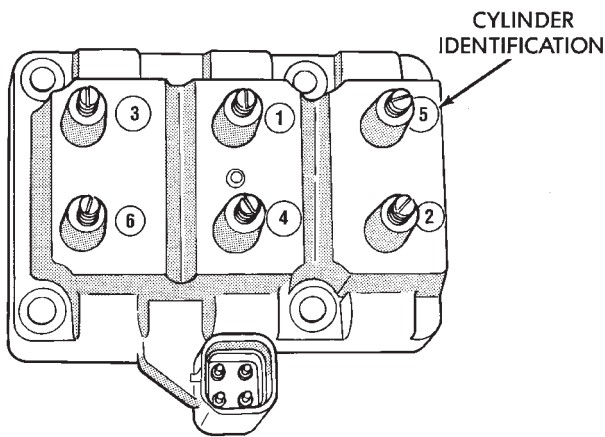

Fig. 14 Cylinder Identification
- (1) Disconnect electrical connector from coil pack.
- (2) Remove coil pack mounting screws.
- (3) Remove coil. The spark plug cables are numbered for cylinder identification.
- (4) Transfer spark plug cables to new coil pack. The coil pack towers are numbered with the cylinder identification (Fig. 14).
- (5) Transfer spark plug cables to new coil pack. The coil pack towers are numbered with the cylinder identification (Fig. 14).
- (6) Reverse procedure for installation.